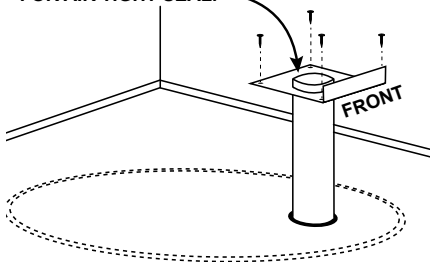

Figure 19: Air Intake Duct Sizing Installation
- 5 Insert the duct assembly as shown in Figure 19 with lip facing forward, and using only nails, secure the duct assembly to the floor.